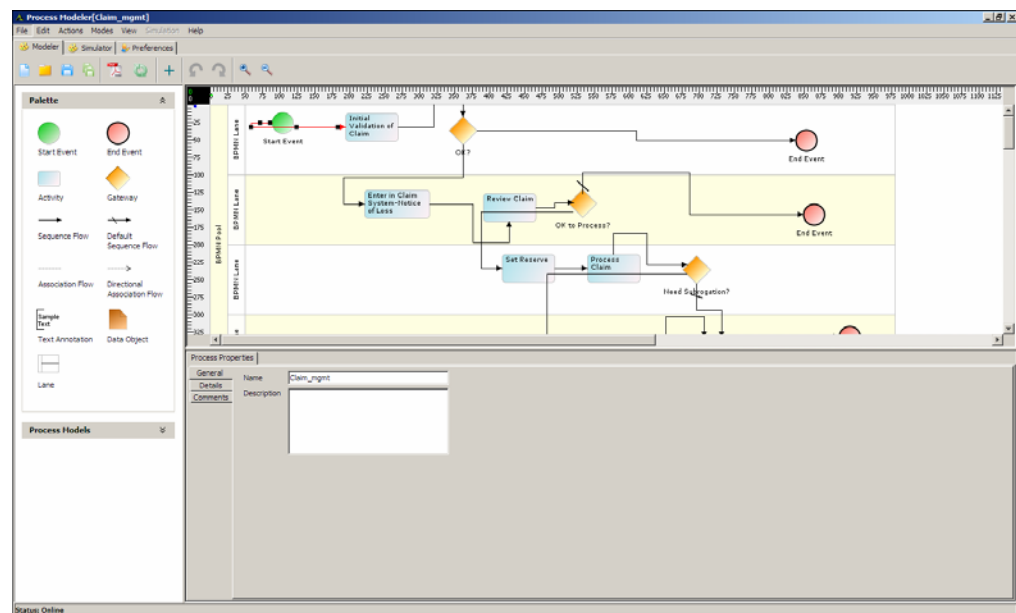

Figure 10.2: Process Modeler
- Click **Process Modeler** button. The Process Modeler window is displayed (see Figure 10.2).